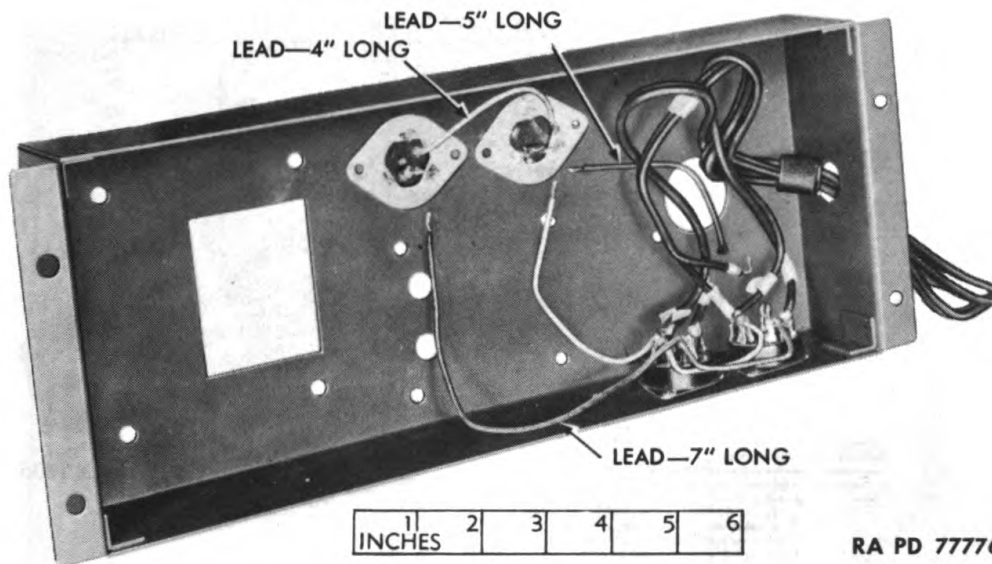
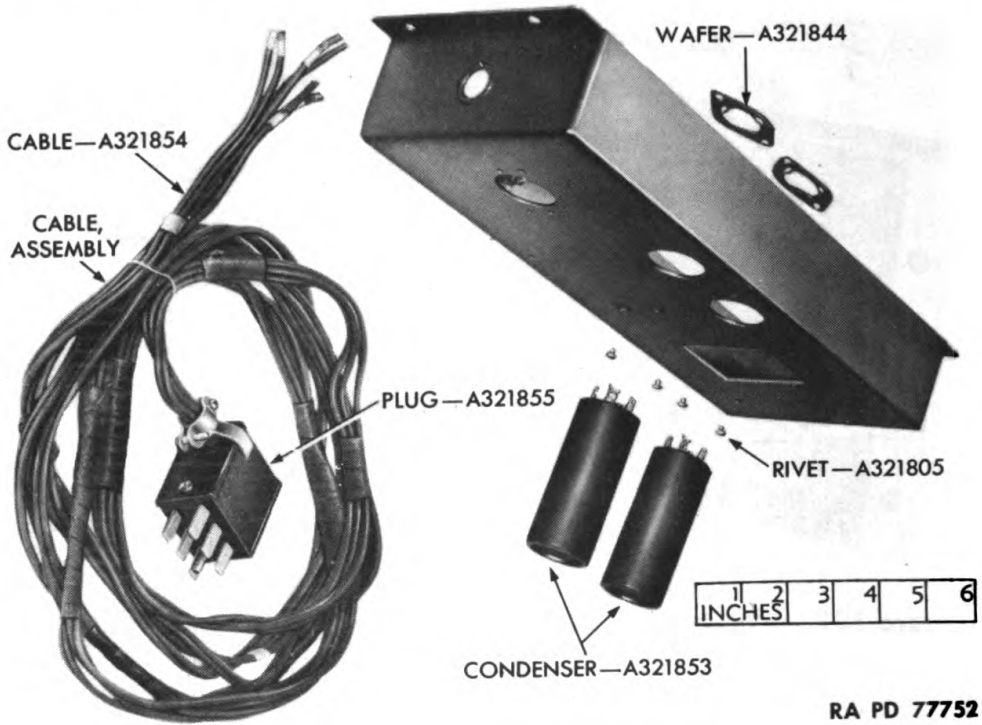

Figure 102 — Removal of Connecting Leads From Power Supply Chassis
Figure 104 — Removal of Condensers and Connecting Cable From Power Pack
(15) Unsolder all remaining electrical leads to the sockets and the condensers as shown in figures 102 and 103. This will free the cable assembly shown in figure 104.
(16) Drive out the rivets in the condenser wafers (fig. 104) and straighten the connectors on the condensers to remove the parts from the power supply chassis.